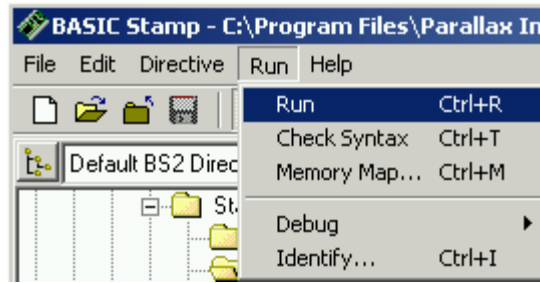

Figure 1-39
- ✓ Click *Run*, and select *Run* from the menu that appears (by clicking it) as shown in Figure 1-39.
- ✓ Run your modified program. You will have to either select *Run* from the Run menu again, like in Figure 1-39 or click the *Run* button, like in Figure 1-41.